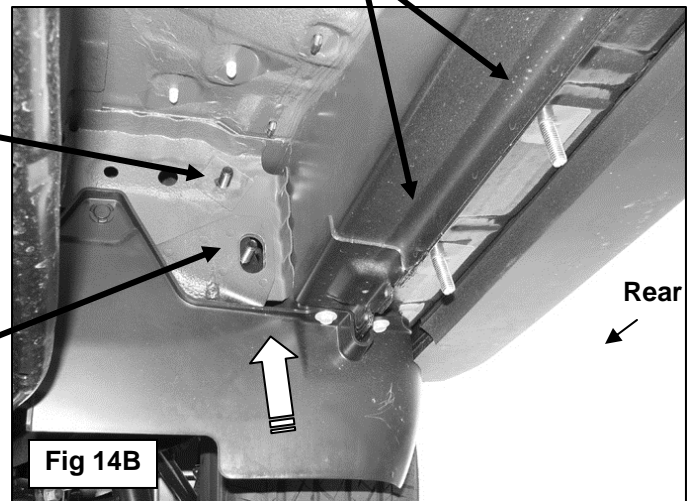
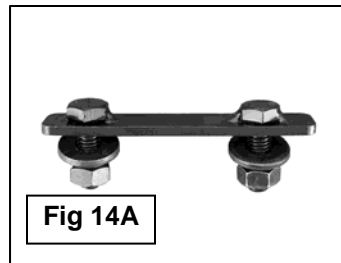
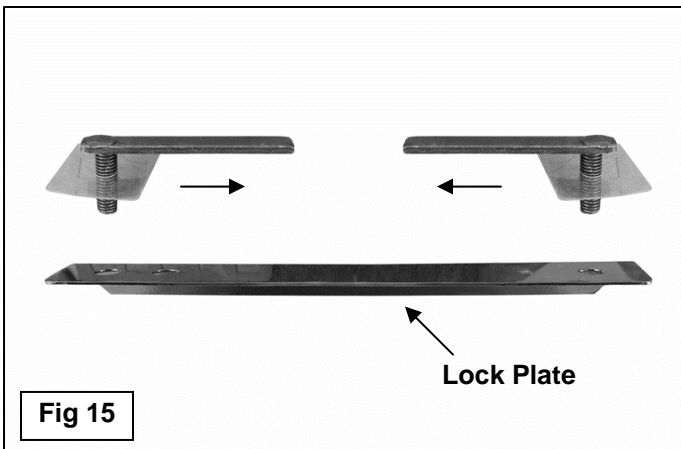

Fig 14B
Fig 14A
Fig 15
12. Move to the rear mounting location in front of the driver side rear tire opening. Locate the large oval and the round holes in the inner body panel in front of the rear tire, **(Figure 13)**. Select (1) 10mm Double Bolt Plate and (1) 10mm Plastic Retainer, **(Figure 14A)**. Insert the Bolt Plate into the oval hole and up and out of the smaller round hole above it. Thread the Plastic Retainer onto the Bolt Plate in the round hole only, **(Figure 14B)**.
13. Locate the last (2) round holes along the floor panel, **(Figure 14B)**. Repeat **Steps 2 – 5** to install the (2) Bolt Plates and Lock Plate, **(Figures 15 & 16)**. **NOTE:** Attach the Lock Plate to the front Bolt Plate only with (1) 10mm Flat Washer, (1) 10mm Lock Washer and (1) 10mm Hex Nut, **(Figure 16)**. Tighten the Hex Nut at this time.